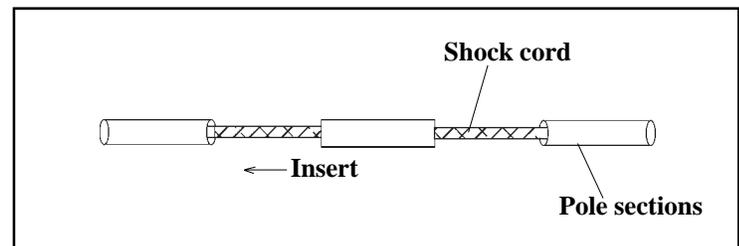

FIGURE 2
Assemble the three poles by joining the sections together. These are slip joints. Do not force these joints together. The internal shock cord holds the poles somewhat rigidly together (see Fig. 2). **Be careful of the pole ends as they are a potential hazard (over head power lines, eyes) and are not easily controlled due to the pole length and flexibility.** After assembly they should be placed on the **ground**. After assembling the poles you should have two (2) long poles and one (1) shorter pole. The short pole is the middle support pole. One pole will have a **yellow sticker** on each end. **This is the 12 o'clock pole.**